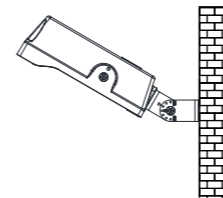

figure 6.6
Step 3: Loosen screws; Adjust fixture angles as per actual demands and tighten screws later. (figure 6.6)Tips:Angles of the fixture is adjustable.